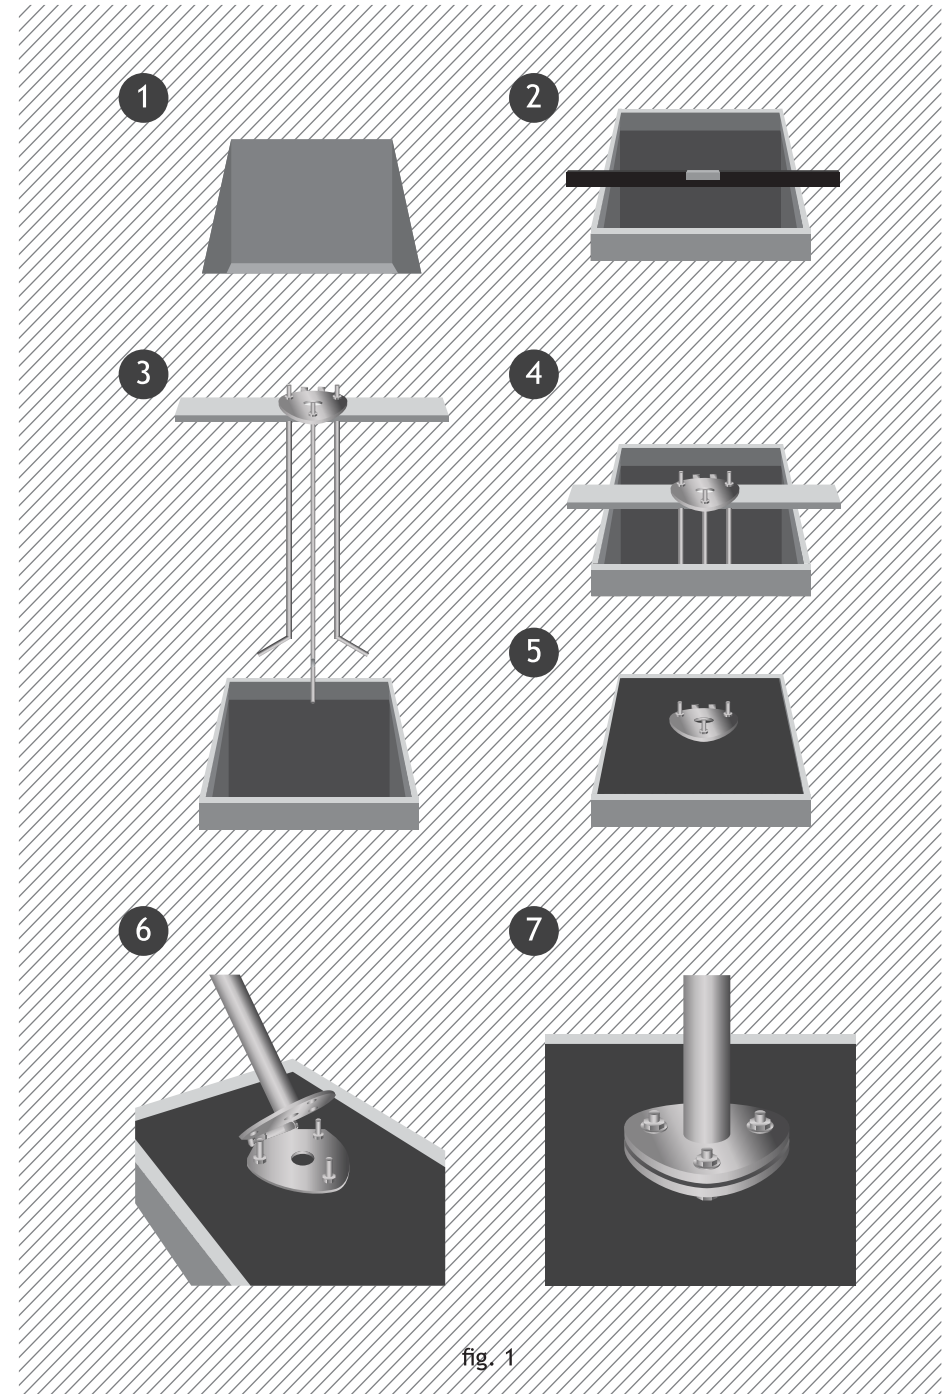

fig. 1
5.2.1 Installing the foundation (fig. 1).